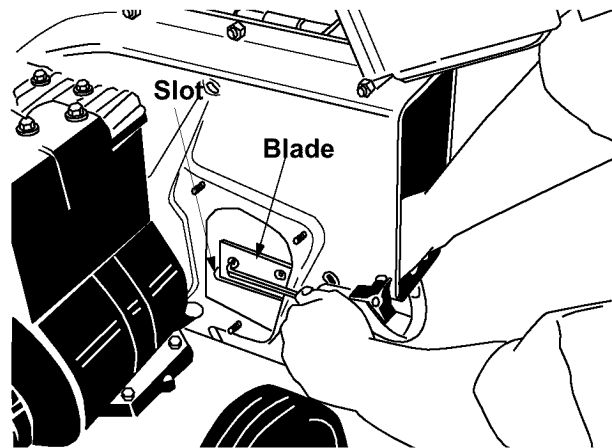

Figure 10
5. Rotate the impeller assembly by hand until you locate one of the two chipper blades in the chipper chute opening. Remove the blade, using a 3/16" allen wrench on the outside of the blade and an adjustable wrench on the impeller assembly (inside the housing). See Figure 10.
9. Reassemble in reverse order. Make certain blades are reassembled with the sharp edge facing the direction shown in Figure 10 (sharp edge is assembled toward the slotted opening at the bottom).